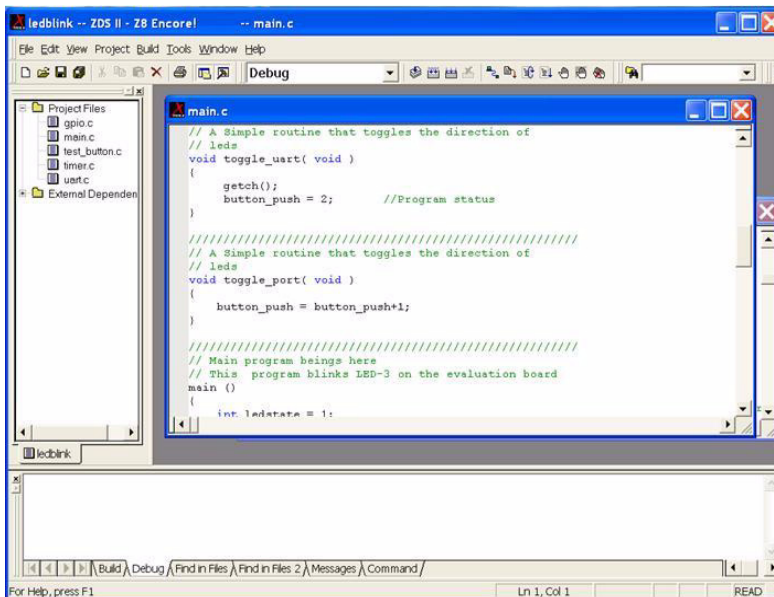

Figure 6. ZDS II Opening Screen (Reference Only)
8. Select the `ledblink.pro` file. The initial ZDS II program screen opens (See Figure 6).